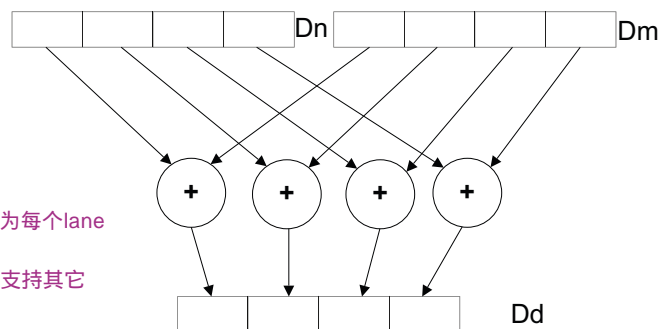

Figure 1-1 Four simultaneous additions
The single instruction operates on all data values in the large register at the same time as shown in Figure 1-1. This method is faster. 这一条指令对一个大寄存器的所有数据同时处理，这种方法更快。
- The addition operations in Figure 1-1 are truly independent.
- Figure 1-1 shows a 64-bit register holding four 16-bit values, but other combinations are possible for NEON registers: